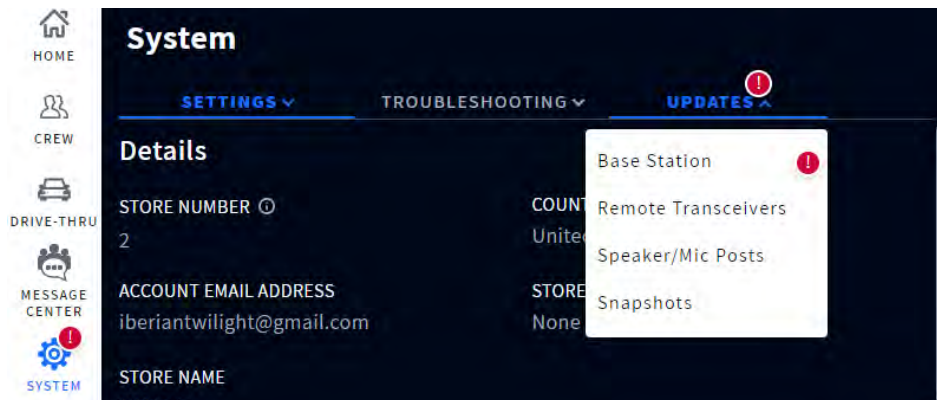

Fig. 5.3
2. Tap on the UPDATES tab. In this example, the Base Station option requires attention. See Fig. 5.3.
3. Select Base Station from the drop-down list (Fig. 5.3).